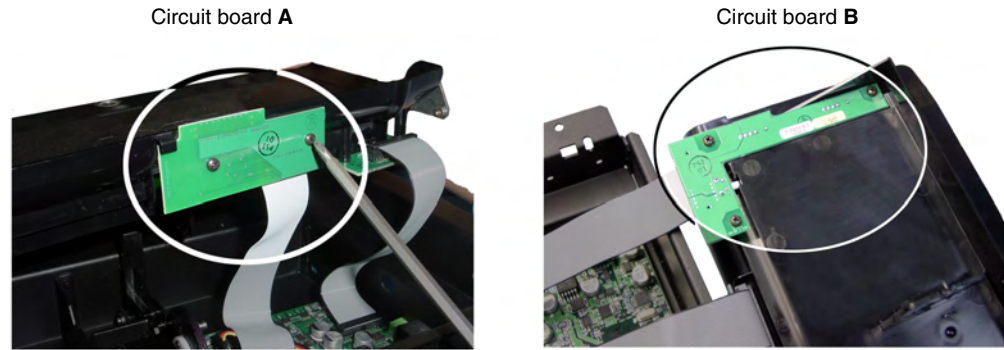

FIG. 25 Removing the attached circuit boards (A & B)
7. Locate the exposed MVP Interface Connector pin circuit board and use the screwdriver to remove this board from the combo unit by unscrewing the two screws (A in FIG. 25).
8. Carefully place the first circuit board aside and rotate the black pivot combo unit over to expose the second circuit board attached to the backside of the unit (**B** in FIG. 25).
9. Carefully remove this second board by unscrewing the three screws and then gently placing this board aside (**B** in FIG. 25).
1. Gently align the second circuit board (**B** in FIG. 25) on the underside of the silver cradle pivot unit shown in FIG. 25.
3. Rotate the pivot unit back over to expose the installation location for the MVP Interface Connector pin circuit board (**A** in FIG. 25) and use a grounded Phillips-head screwdriver to secure this remaining board to the silver pivot unit by screwing in the two securing screws.